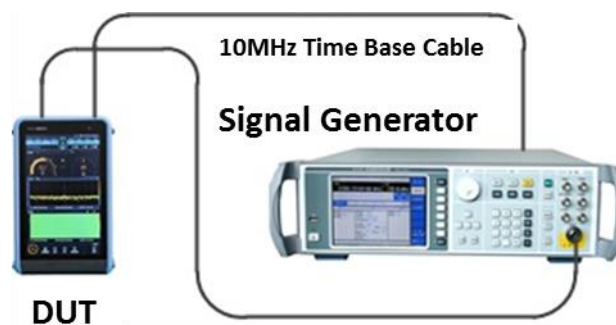

Fig. 8.2 Schematic diagram of the maximum linear operating level test
1) Connect the test equipment as shown in Figure 8.2.